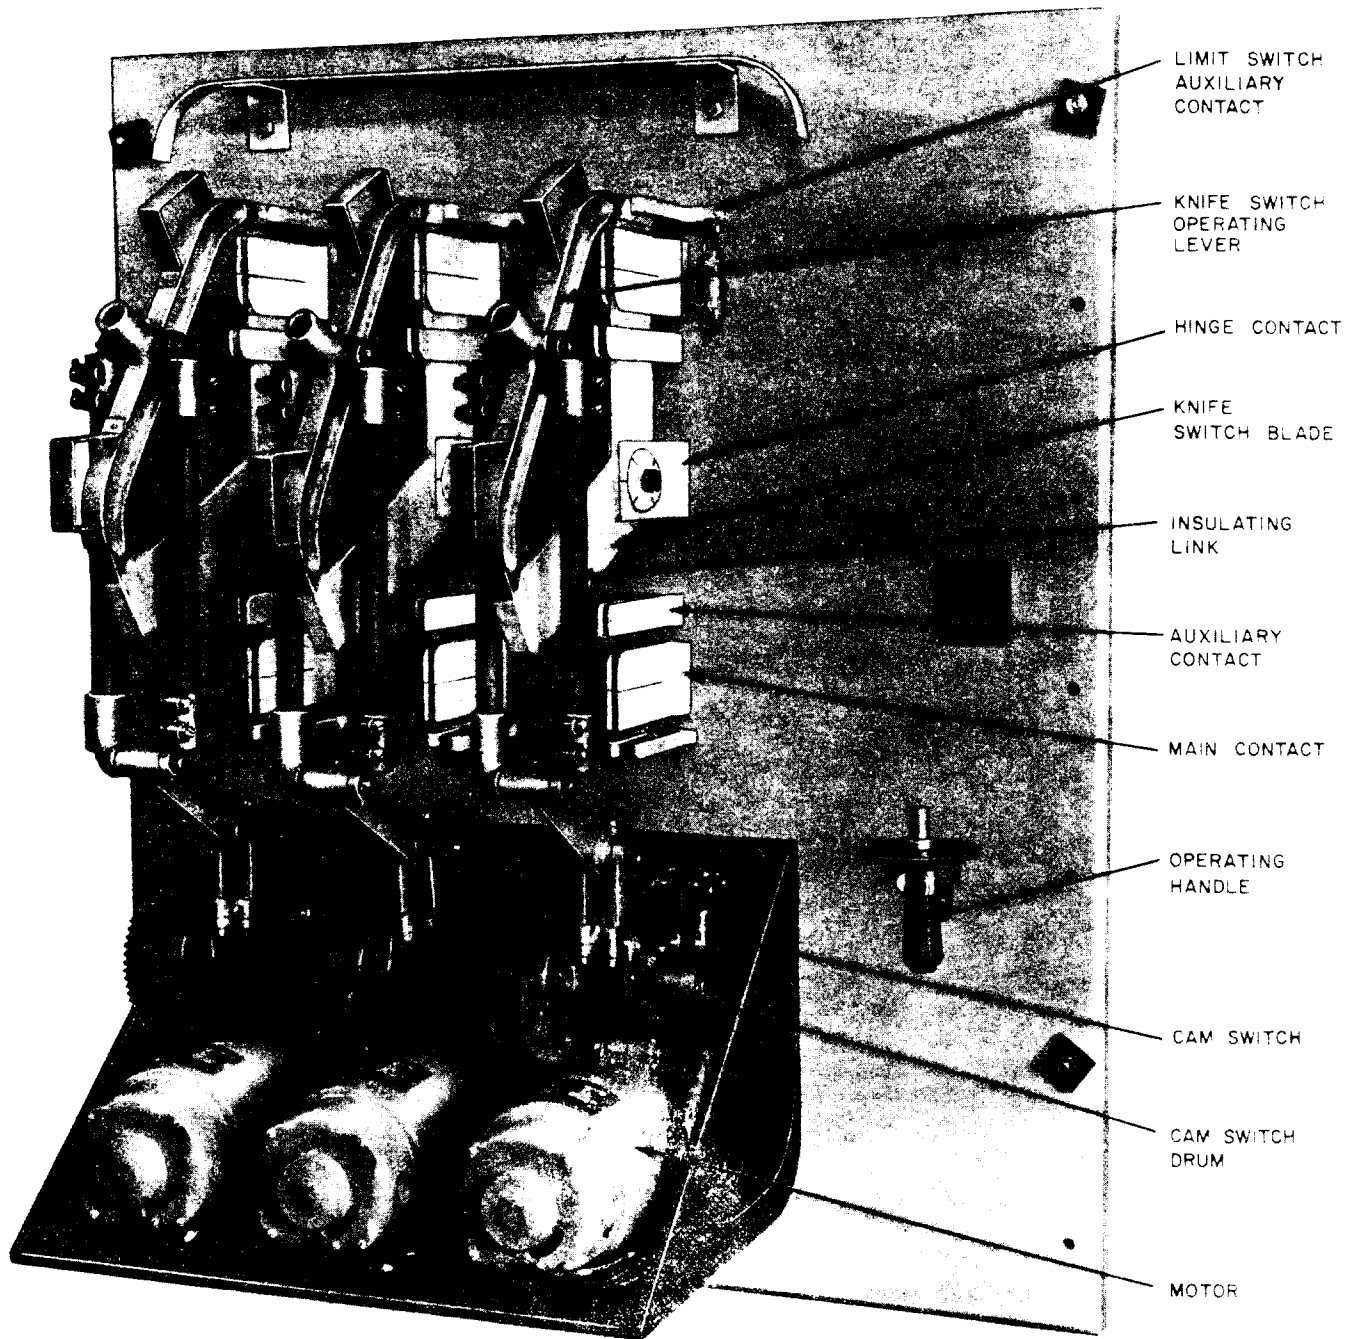

Fig. 2—KS-15836 Type Motor-Driven Switch—Front View (Cover Removed)
- Add new Fig. 2 and 6 showing snap action switches and plastic actuating cams.